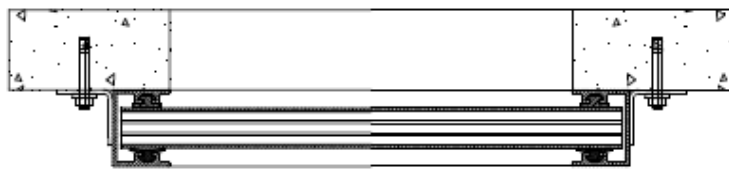

Figure 14
- Drill and install the rest of the anchor bolts (See Figure 14)